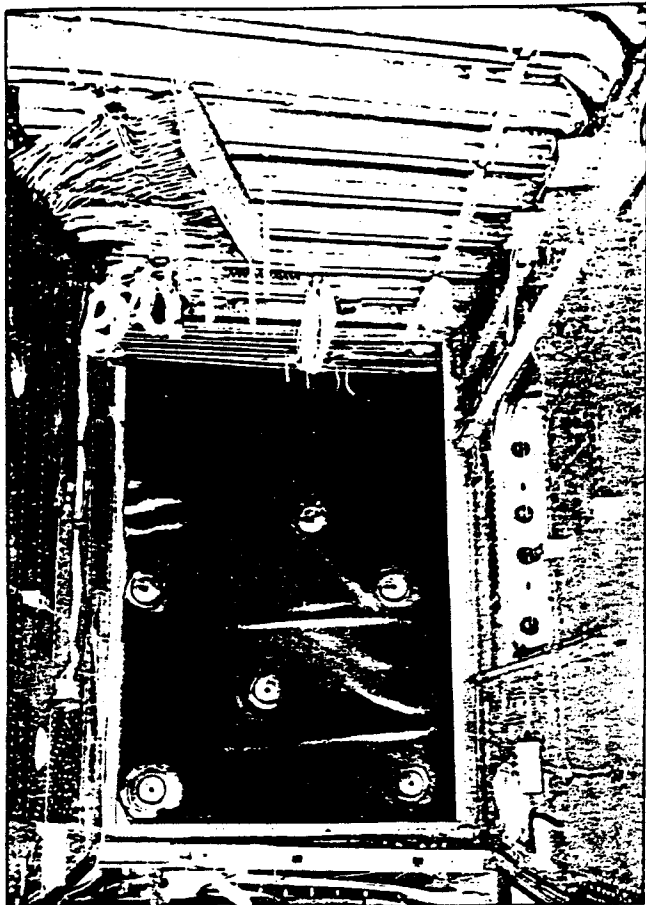

Figure 7. Inboard Fuel Tank Installation
(3) INSTALLATION MAIN FUEL TANKS. (See figures 7 and 8.)